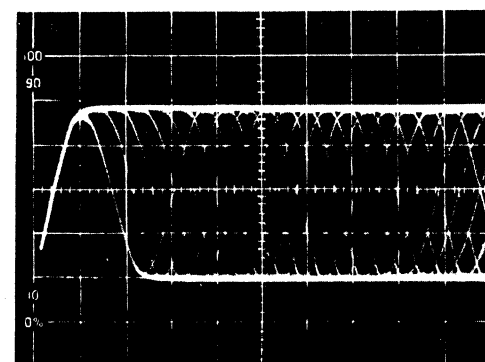

Fig 4-10. RF signal
4. Connect the oscilloscope to TP107 of SL-P7 or CN109 pin ③ / RF test pin of SL-P8.
8. Confirm if RF signal is present as shown in figure 4-10. If not, proceed to the next step.